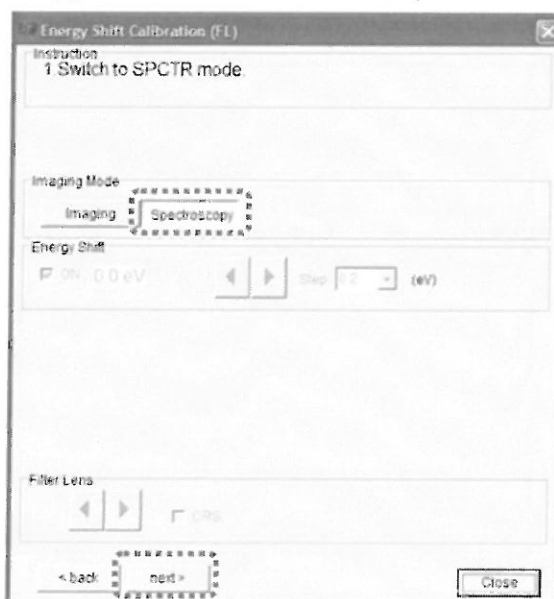
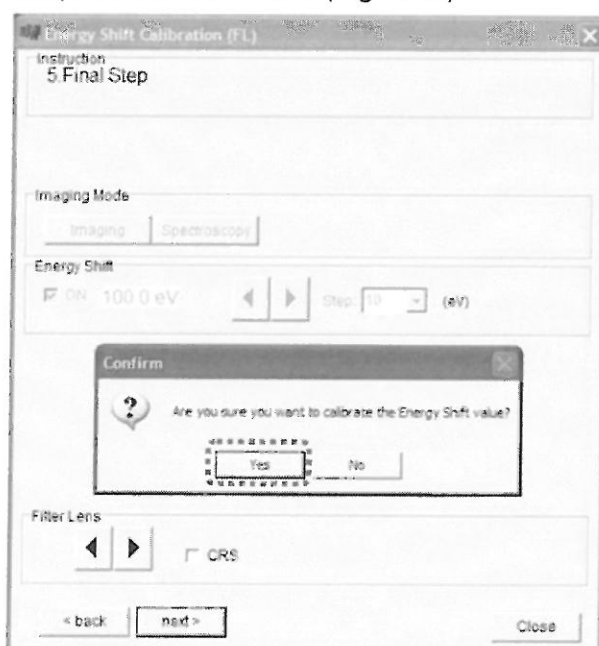

Fig. 5.44 Energy Shift Calibration (FL) - 1. Switch to SPCTR mode
Fig. 5.48 Completing the Energy Shift Calibration (FL)
5.12.10c Calibration of the Energy Shift Value (FL)
Clicking this button starts the calibration of energy shift value by the Filter Lens (FL). Follow the instructions of the wizard and continue the process (Fig. 5.44 through Fig. 5.48).
- Follow “Instruction – 1. Switch to SPCTR mode”, press the **Spectroscopy** button and change to SPCTR mode (Fig. 5.44). After completing the change to SPCTR mode, press the **next** button and proceed to the next window.
- Pressing the **next** button in procedure 4 will display the Confirm window. Press **Yes** and complete the calibration (Fig. 5.48).